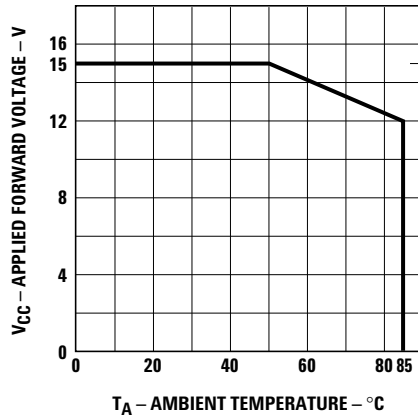

Figure 4. Maximum allowed applied forward voltage vs. ambient temperature  $R\theta_{JA} = 175^{\circ}\text{C/W}$ . 12 volt devices.
3. Derate from  $T_A = 50^\circ\text{C}$  at 0.086 V/°C, see Figure 4.